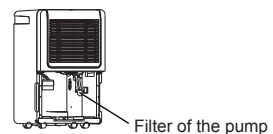

Fig.13
- Remove the bucket from the unit, take down the pump and clean the filter. (See Fig.13).